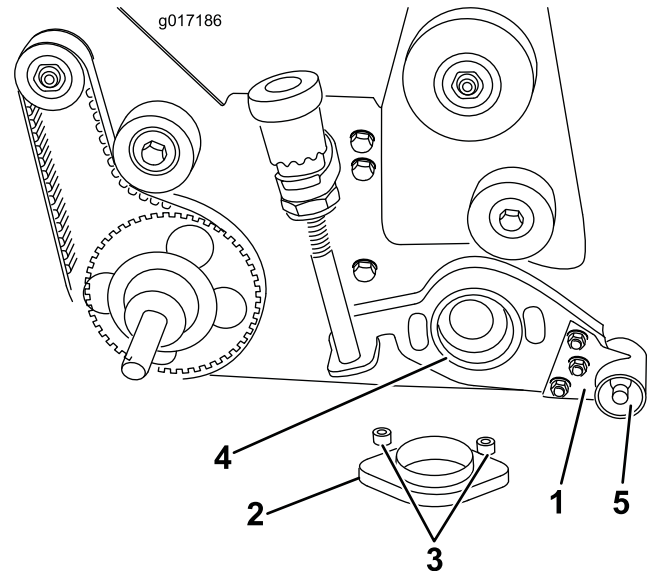

Figure 9
A. Insert an adapter ring into the reel bearing housing (Figure 9).
B. Slide the groomer plate assembly over the end of the groomer shaft (Figure 9).
C. Insert the two 3/8 x 2 inch flat head screws through the groomer arm cover and the bearing adapter. Put a spacer over each screw before positioning the adapter into the reel bearing housing. Slide the adapter through the bronze bearing in the groomer plate assembly and into the reel bearing housing. Install the locknuts on the flat head screws and torque them to 23 to 27 ft-lb (31 to 37 N-m) (Figure 9).
D. Secure the right end of the groomer shaft to the groomer plate assembly with a 1/2 inch locknut (Left hand thread) Torque the locknut to 29 to 35 ft-lb (39 to 47 N-m) (Figure 9).
22. Mount the groomer adjustment knob assembly to the right side plate with the 3/8 x 5/8 inch capscrew and Belleville washer removed in Step 8B (Figure 9).